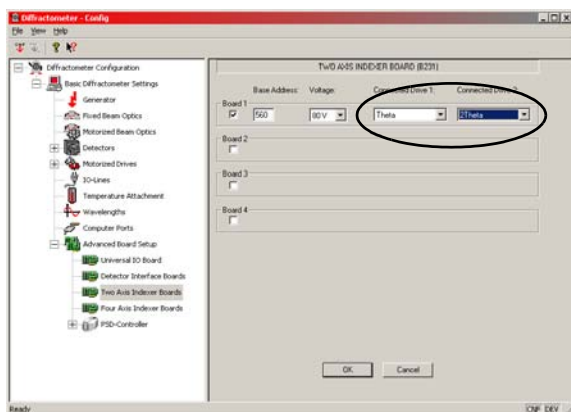

Figure 4.17 - Advanced Board Settings – Two Axis Indexer Board. Settings for Theta-2Theta.
2. Select **Advanced Board Setup > Two Axis Indexer Boards**. Ensure that physical drive 1 is connected to logical axis **THETA**, and physical drive 2 is connected to logical axis **2THETA** (see Figure 4.17).